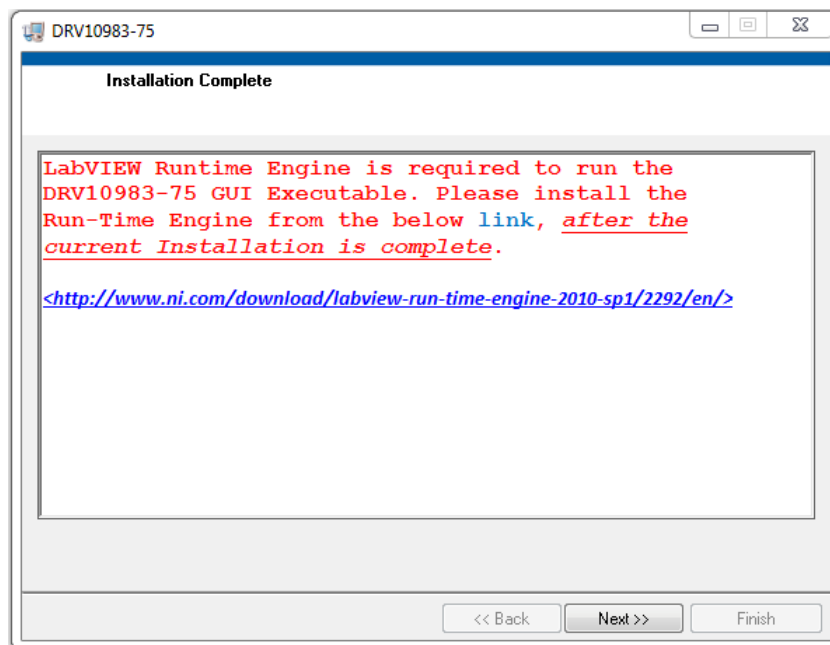

Figure 16. GUI Installation Complete
7. The *Installation Complete* screen (Figure 16) appears, providing the link for LabVIEW Runtime Engine. This denotes the completion of DRV10983/75 GUI Installation.